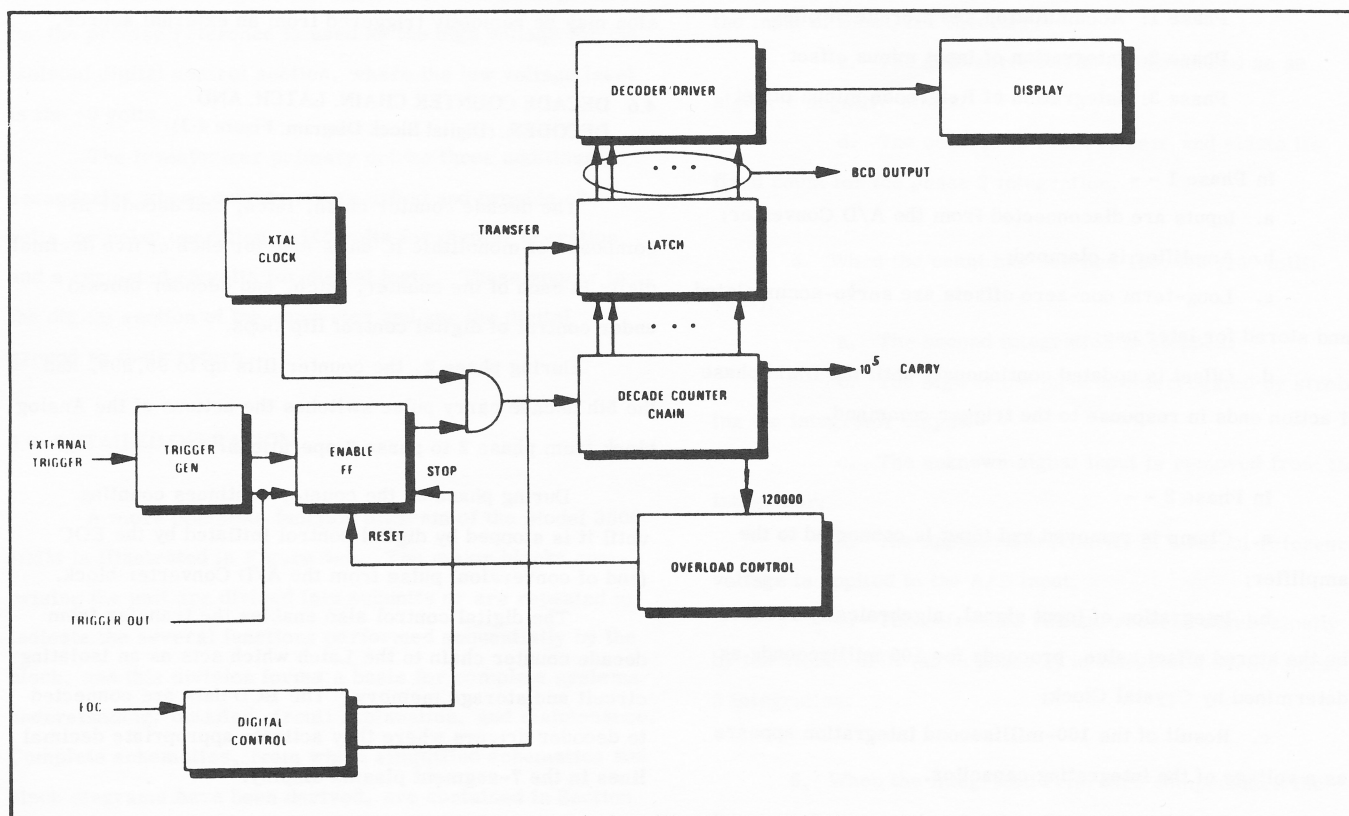

Figure 4-3. Digital Block Diagram
(Figure 4-3),
In the Digital Block Diagram (Figure 4-3), the Trigger block generates a control pulse (from its own internal timing circuitry or from external command) as the "start convert" command to the Enable FF. If not blocked by the External Enable signal, the Enable FF gate permits the Crystal Clock pulses to drive the Decade Counter Chain block to start phase 2 operation. At 100,000 counts (end of phase 2) a carry pulse (10^5 CARRY) is transmitted to the Analog Block to start phase 3, while the decade chain continues its counting. When an EOC pulse is received from the Analog Block, the digital control block applies a stop command to the Enable FF stopping the count. At the same time, the Control block generates a transfer command to enable the transfer from the Counter to the Latches, Decoders, and Drivers, updating the display.
4.5 TRIGGER GENERATOR AND CLOCK (Digital Block Diagram, Figure 4-3)
4.6 DECADE COUNTER CHAIN, LATCH, AND DECODER. (Digital Block Diagram, Figure 4-3)